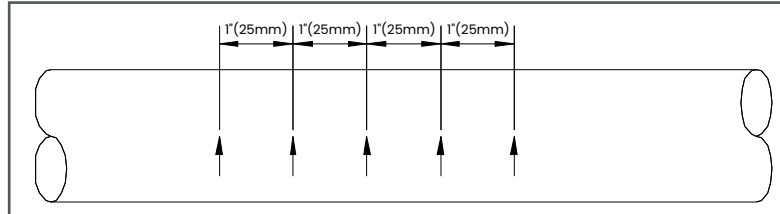

Figure 13: Measuring Thickness Along the Pipe Axis
2. Clear rust or loose paint and measure the wall thickness at five points along the pipe axis at 25 mm (1-in.) intervals using an ultrasonic thickness gauge, as shown in *Figure 13*. Check each point three times and record the mean values. If the maximum variation between the five points exceeds 0.25 mm (0.010 in.), find another location.